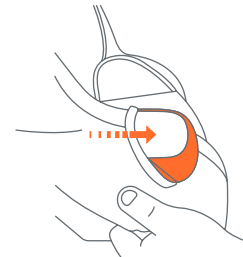

Fig. 40c
3. Slip seat fabric over cupholder (Fig. 40c).